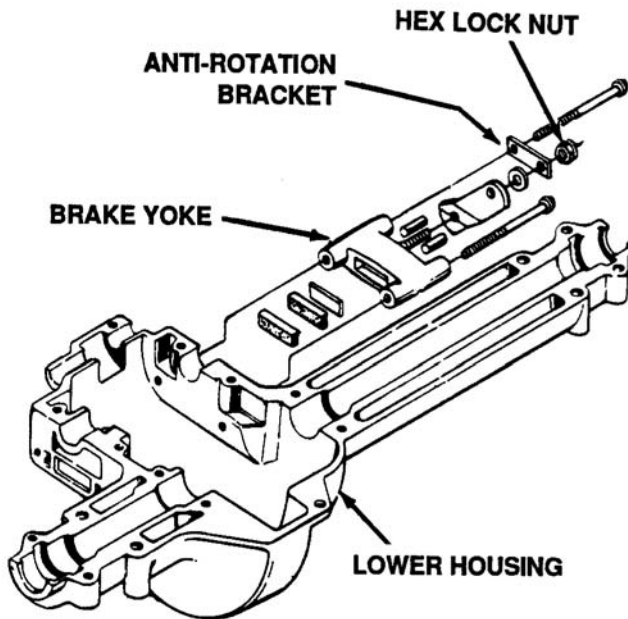

Figure 6-3. Brake and Lower Housing
1. The material used for the brake yoke prior to 1991 was powder metal. This has been changed to cast aluminum. Also, the brake adjustment castle nut and cotter pin have been changed to a hex lock nut and anti-rotation bracket. See Figure 6-3.